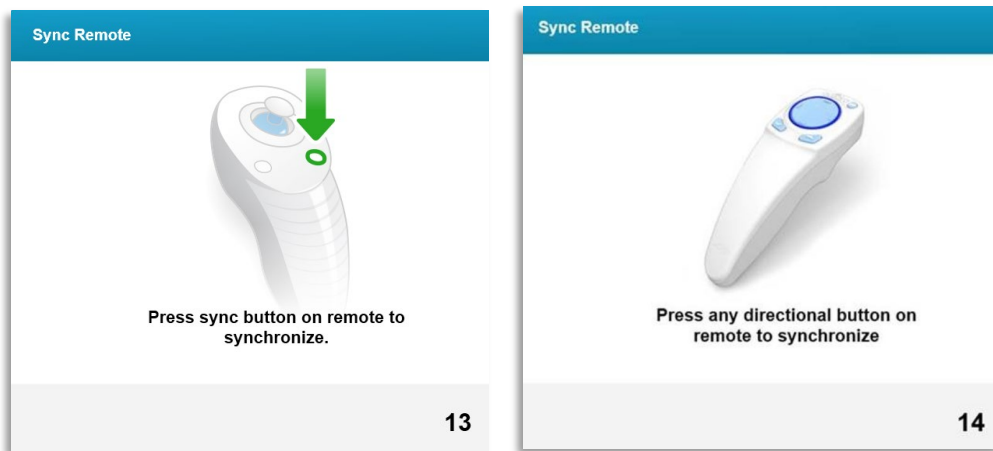

Figure 3-16. Sync Remote
- o If the user has the treatment card inserted while programming treatment parameters that are outside the allowable value(s) controlled by the RFID card, the following message will appear and "Perform treatment" will be unable to be selected as shown in Figure 3-16.
- o The Sync alignment remote message will be visible on the screen for 15 seconds as shown in Figure 3-16.